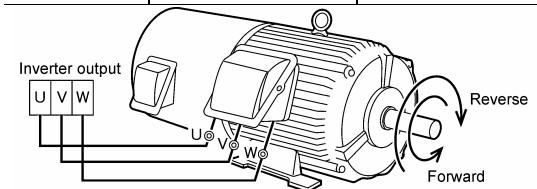

Figure 3-3-1 Motor Rotating Directions
(1) Turn the power on. Check that the speed indicated by blinking LEDs is 0r/min.
(2) Set the speed to a lower level around 100r/min using the **▲** key.
(3) Press the **FWD** key to run the motor in the forward direction or the **REV** key to run in the reverse direction. Press the **STOP** key to stop the motor.
(4) Check that:
- the motor runs in the selected direction (see Figure 3-3-1),